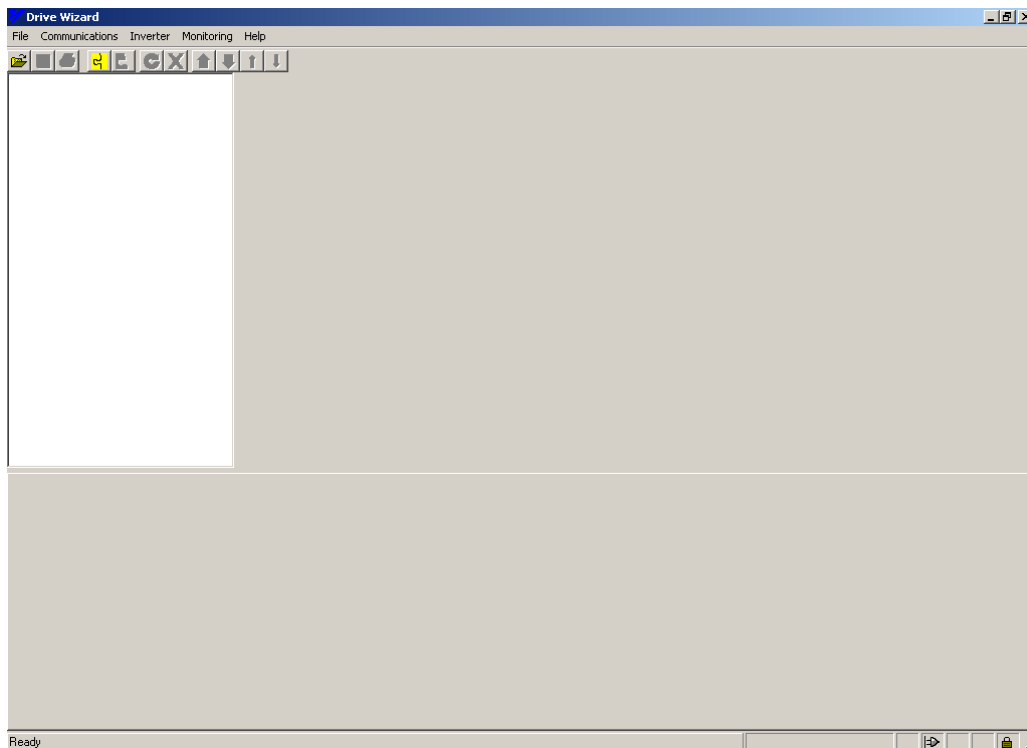

Figure 3.2: Initial Main Screen
3. The initial main screen will appear after the program finishes loading (Figure 3.2).